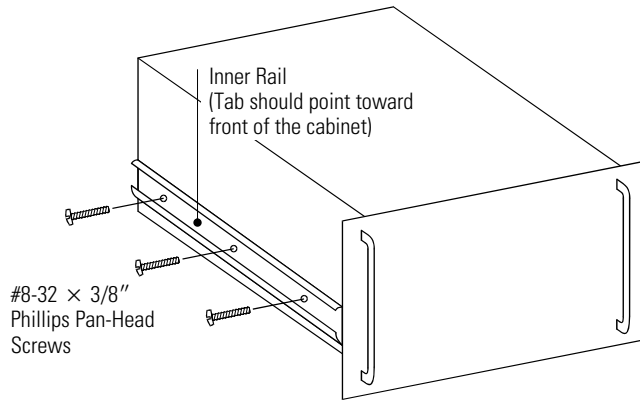

Figure 15. Attaching the Inner Rail to the Battery Cabinet
5. Attach the inner rails to the battery cabinet (see Figure 15). Be sure the tab on the inner rail points to the front of the battery cabinet. Secure the rail using three #8-32 $\times$ 3/8" Phillips pan-head screws on each side of the cabinet.